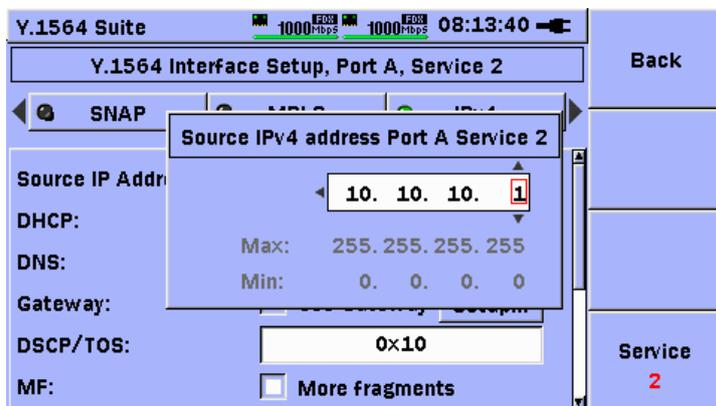

Figure 3.11.6-21 Services Setup – SRC IP Address Editor
**Gateway:** Use the **Up/Down/Left/Right**-arrow keys to highlight the **Setup...** button across from the Use Gateway label. Press the **Set** key to display the Gateway Setup pop-up screen, as shown in Figure 3.11.6-22. Use the **Up/Down/Left/Right**-arrow keys to move the highlight to the Default gateway: field. Press the **Set** key to display the pop-up editor. Use the **Up/Down/Left/Right**-arrow keys to input the address for the gateway. Press the **Set** key to close the pop-up editor. Repeat the procedure for the Network Mask: field.